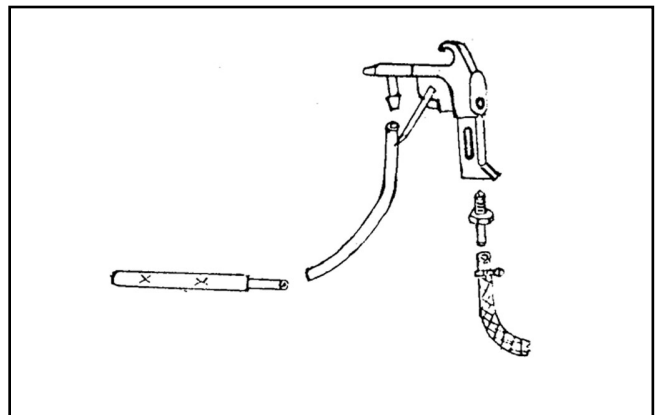

Figure 5. Gun assembly.
5. Insert the air supply hose through the cabinet grommet, and assemble the gun as shown (**Figure 5**).